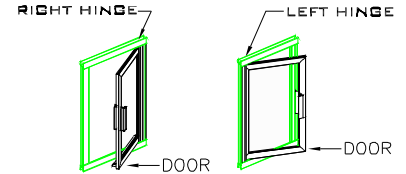

figure 3
4. Reposition Wall Jambs (B) as before and secure Jambs to walls using the six(6) 1-1/4" Installation Screws (K) provided (3 per jamb).
5. Decide from which side your Door Assembly (D) is to hinge (left or right, your choice) see figure 3. Insert the Door Assembly's Hinge Post (c1) into the Wall Jamb from which it is to hinge. Now, insert the Strike Post (D) into the other Wall Jamb (see exploded view - sheet 1). Magnet on door should face toward interior of enclosure, while magnet on Strike Post should face toward the exterior.